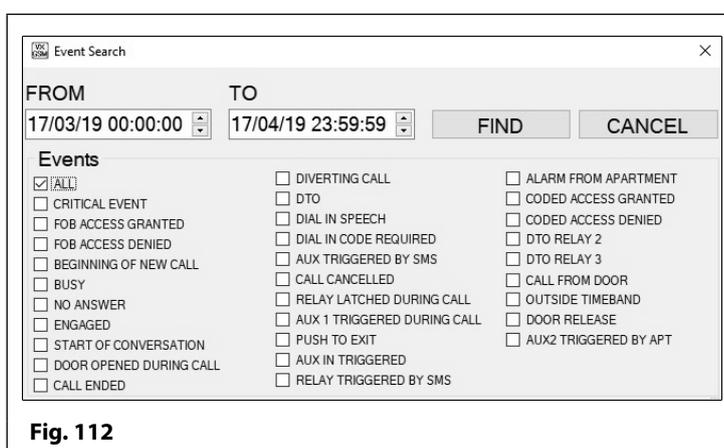

Fig. 112
- After a brief delay the event search window will appear, **Fig.112**.